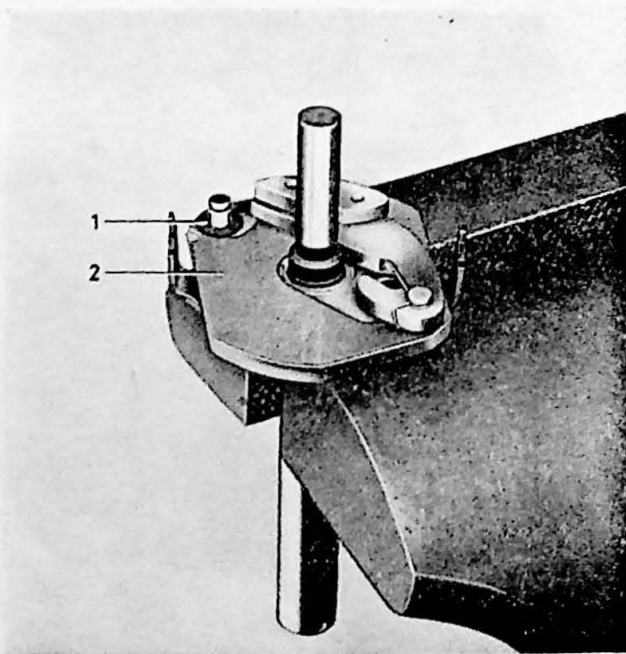
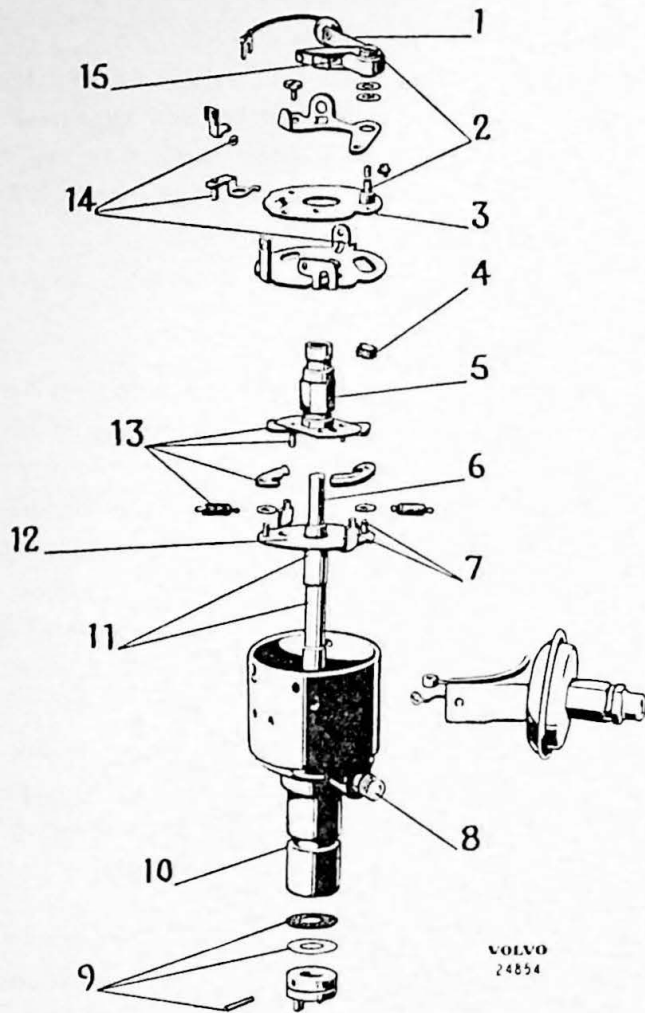

Fig. 10-56. Plate with fiber washers
Fig. 10-60. Lubricating scheme for distributor
- must not be oval or otherwise deformed. The fiber washers, Fig. 10-56, must be intact.
1. Place the Resitex washer on the distributor shaft and the fiber washers over this, see Fig. 10-56. Lubricate and place the centrifugal regulator weights in position. Place on the locking springs. Concerning lubricating, see Fig. 10-60.